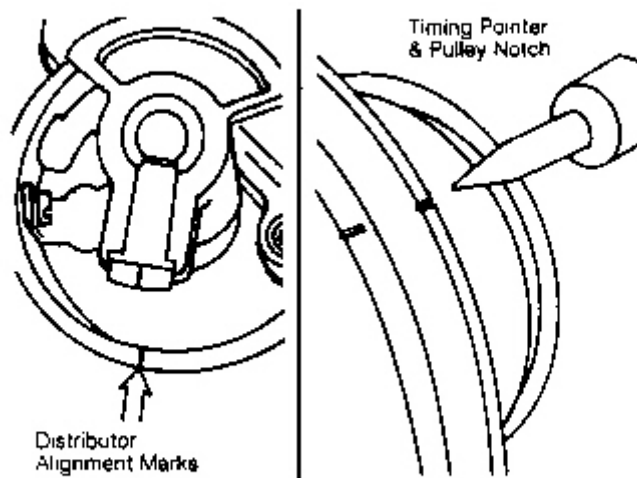

Fig. 2: Timing Mark Alignment for Setting No. 1 Piston at TDC
housing, and timing pointer with notch in damper. See **Fig. 2**.
1. Remove distributor cap. Set No. 1 piston at TDC. Align distributor rotor with notch in distributor housing, and timing pointer with notch in damper/pulley. See **Fig. 2**. **DO NOT** allow crankshaft to move.